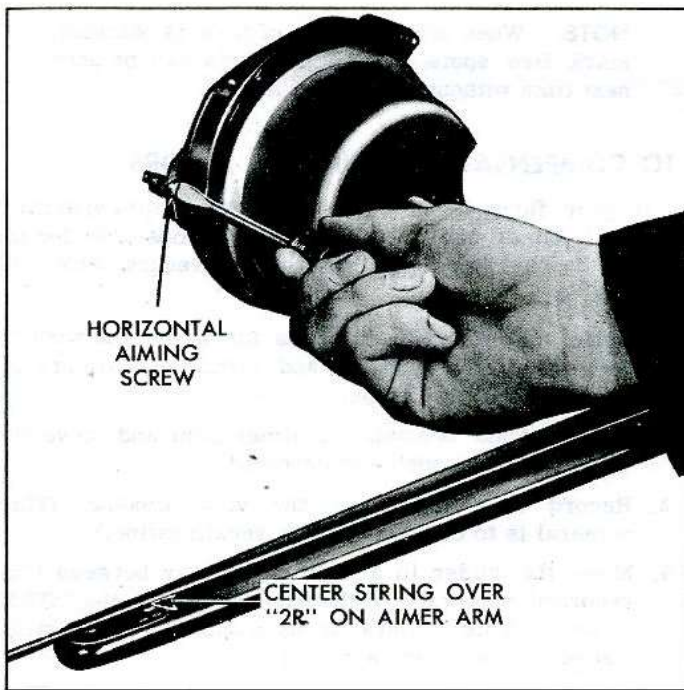

Fig. 4—Headlamp Horizontal Adjustment
7. a. Turn horizontal aiming screw, Figure 4 on left-hand lamp until the string is positioned over the crossarm centerline. Turn the screw clockwise in making the final adjustment to take up play in the headlamp mechanism.